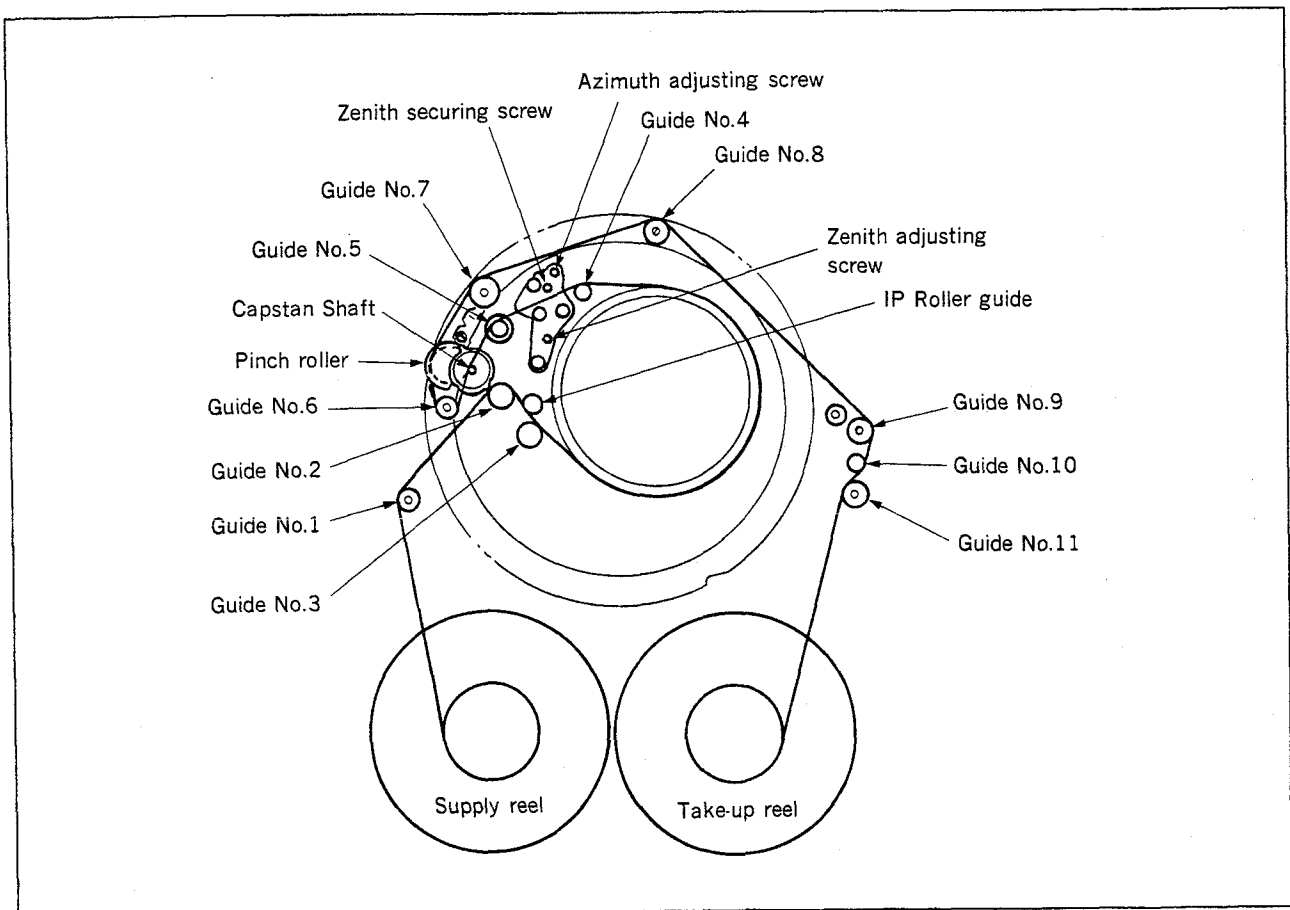

**Fig. 5-6-2 TR-72 Board Adjustment**
- (1) In step (3), if the voltage of TP802 does not satisfy the specification, adjust it as follows. Loosen a screw of the TR-72 board on the S-tension Sensor Ass'y, insert a flat blade screwdriver into the slot and twist the board right or left until the voltage is satisfied. (Refer to Fig. 5-6-2). Then tighten the screw.
- (2) If the torque does not satisfy the specification in step (5), turn RV805 on the SST-2AP board so that the torque is within the specification.